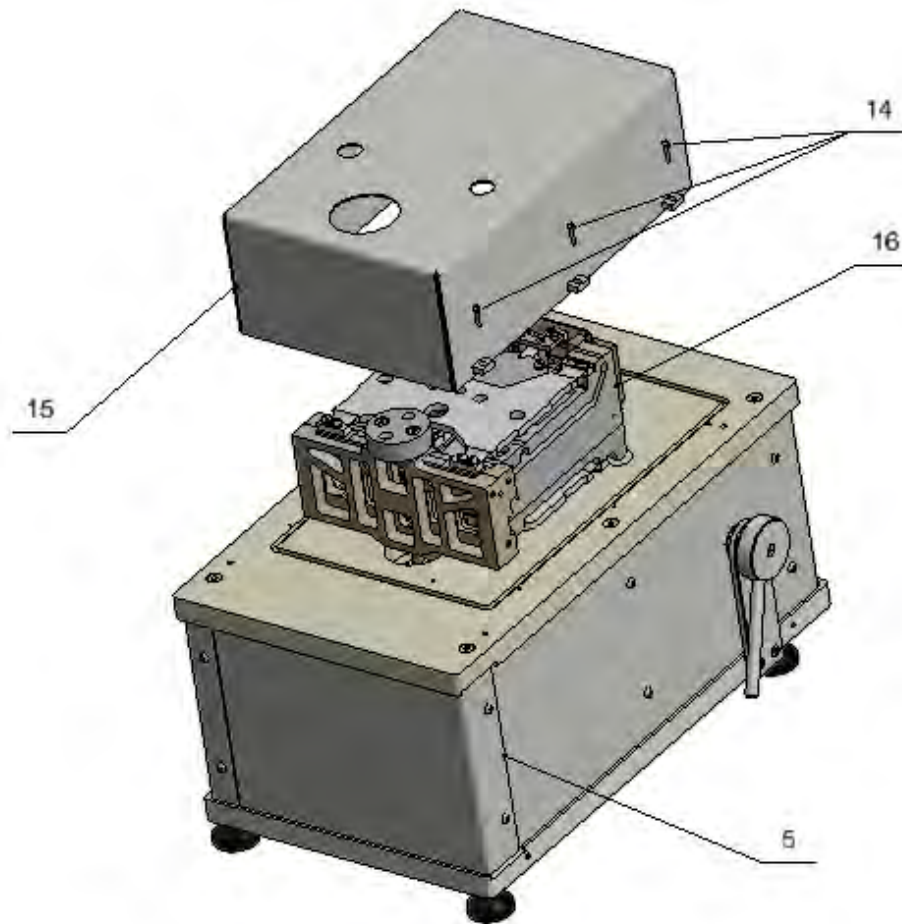

Fig.7
11. Fix the lid assembly for a bottom shield (5). (Fig.7)
12. Undo six M3 screws (14) and remove top shield assembly (15).(Fig.7)